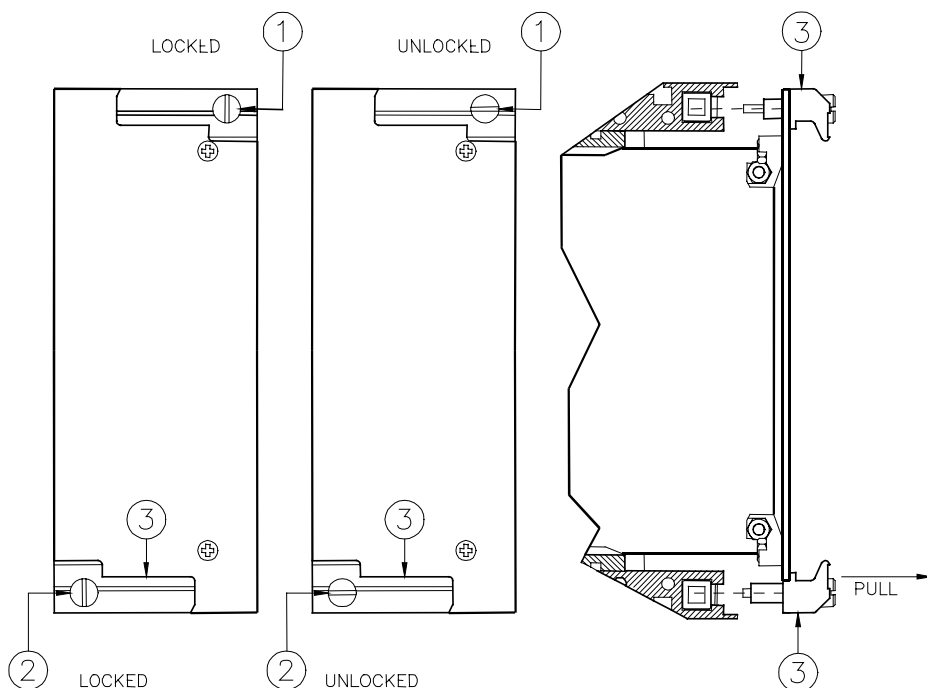

Figure 2: LATCH MECHANISM FOR REMOVAL OF RELAY FROM CASE
To remove the relay from its case, refer to Figure 2. The relay may be removed from its protective case by turning with a flat bladed screwdriver the locking screws ① and ② on the front panel latches ③ so that the slot on the screw is parallel to the ground. The latches may then be pulled from the inside edge to release the relay. Carefully pull on the latches to remove the relay from the housing.